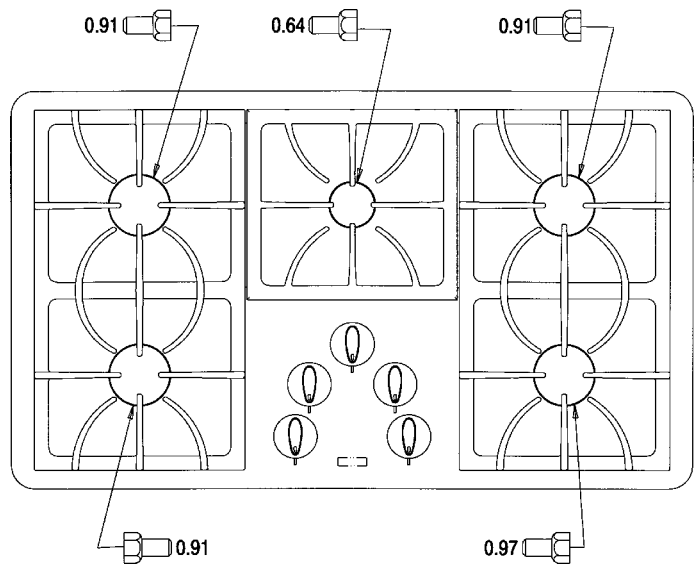

FIGURE 9
**Step 4:** Locate the LP orifice spud packet included in the literature packet. The spuds have small numbers stamped on the side. This number codes the orifice diameter and its correct burner location. Figure 9 and 10 show the correct LP orifice spud location.